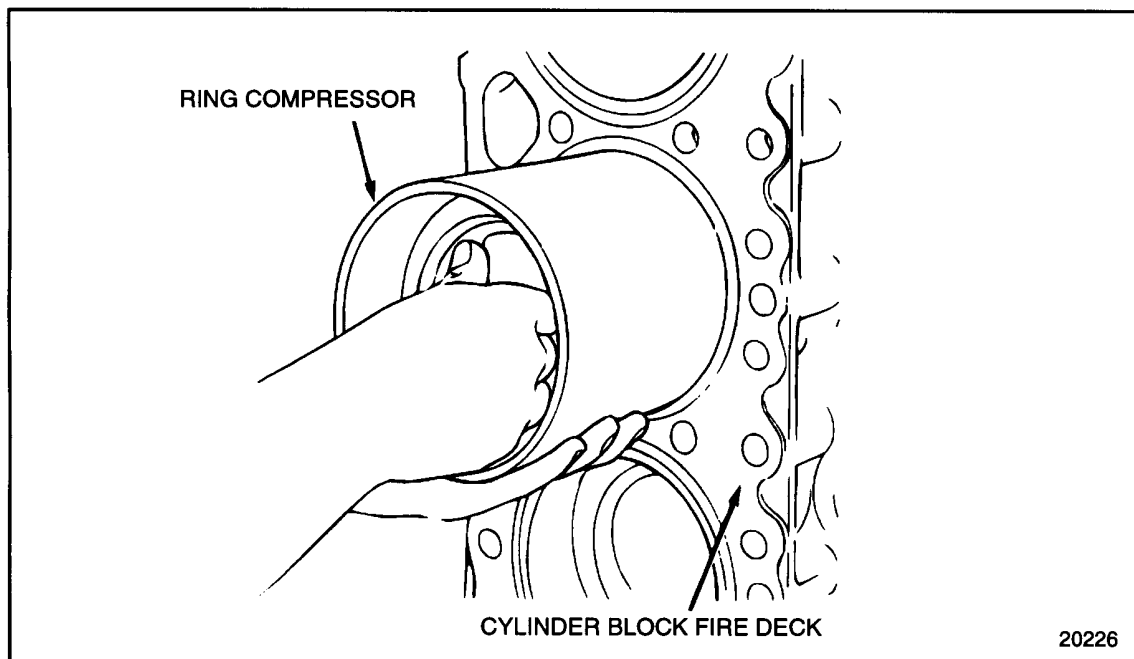

Figure 1-250 Use of Ring Compressor
14. Install the ring compressor, with piston and connecting rod inside, into the proper cylinder until the ring compressor is resting squarely on the cylinder liner. See Figure 1-250.